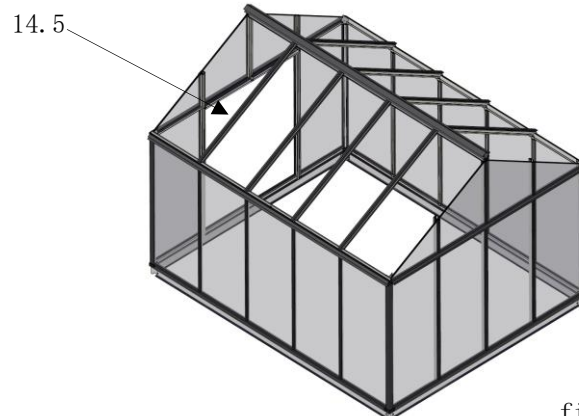

fig. 47
- as described in fig. 44 to 46, the work steps are repeated for the remaining roof profiles (*fig. 47*)